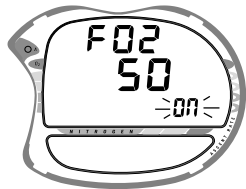

Fig. 36 - Set FO2 Default
- The graphics **FO2** and **50** appear with the **ON** (or OFF) flashing (Fig. 36).